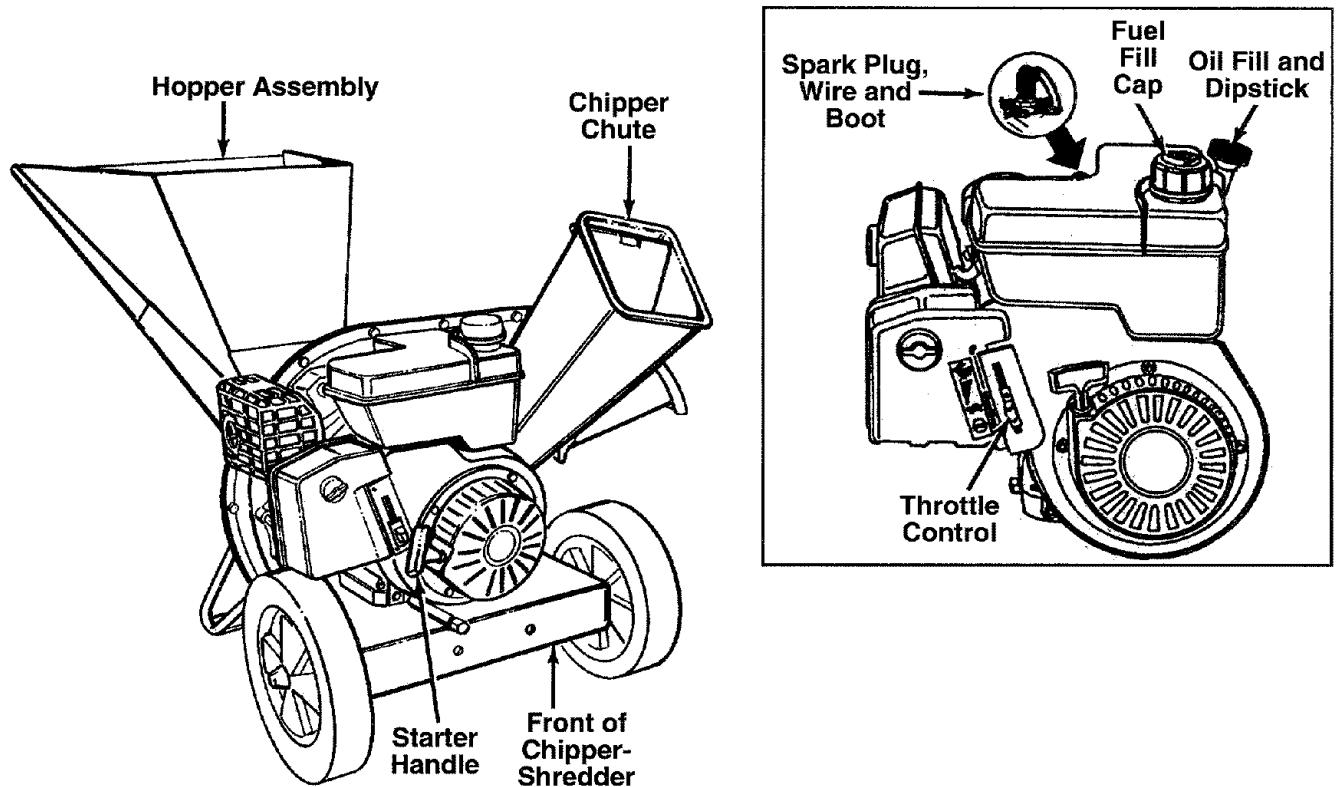

FIGURE 6.
NOTE: To determine right and left hand sides of your chipper-shredder, stand behind the unit with the engine the farthest away from you. See figure 6.
STARTER HANDLE—Used to manually start the engine. See figure 6.
THROTTLE CONTROL—Permits selection of fast or slow engine speed, and is used to stop the engine. See figure 6.
- Move throttle control lever to STOP position. See figure 6.
- Disconnect spark plug wire and move away from spark plug to prevent accidental starting while equipment is unattended. See figure 6.